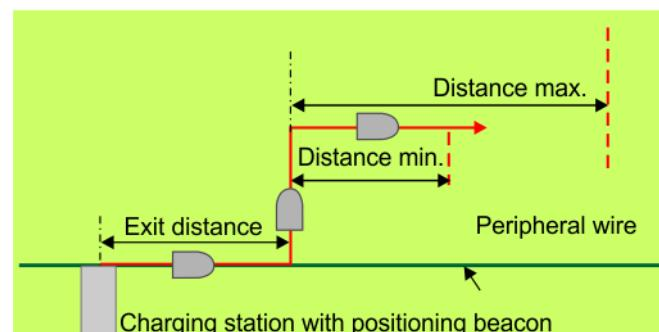

Figure 79: Minimum and Maximum Start zone distances measured from charging station
- The charge station, if the start zone is located in the same parcel as the charging station as shown in Figure 79: Minimum and Maximum Start zone distances measured from charging station (page 81). This will be the case if the charging station contains a positioning beacon.